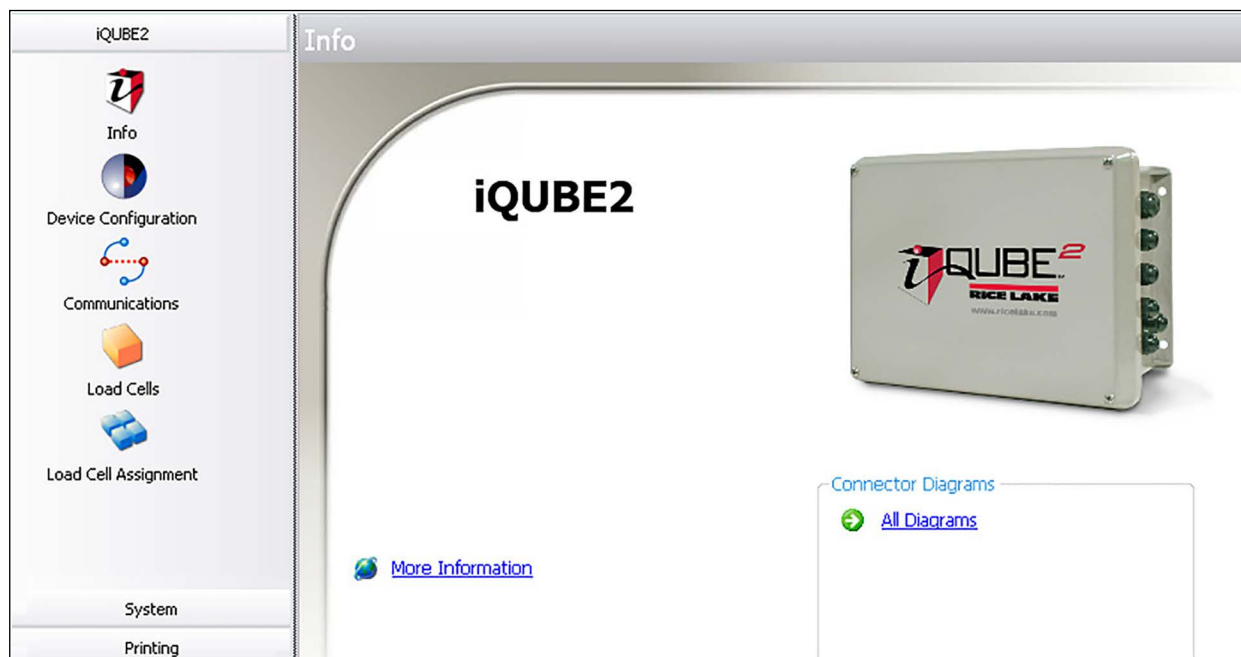

Figure 5-2. VIRTUI² iQUBE² Screen
Figure 5-2 shows the default section displayed when a configuration file is opened for editing. A graphic of the iQUBE², links to more information, and links to connector diagrams are displayed in this section.
1. Select **Device Configuration**. See Figure 5-2 on page 68.